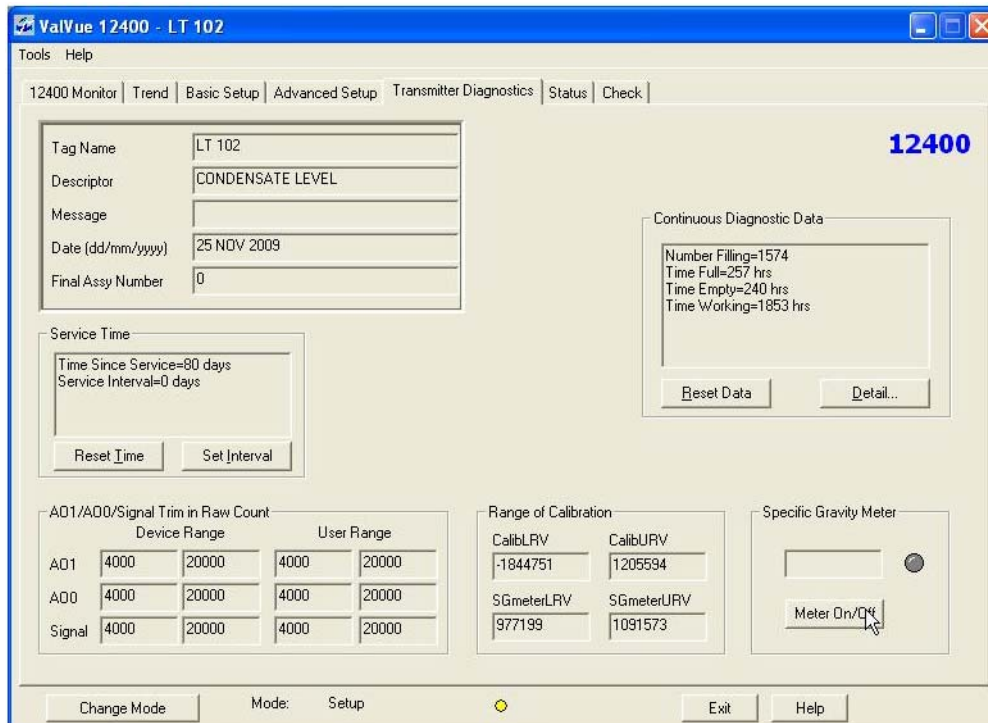

Figure 263 Starting Specific Gravity Meter
- Click **Meter On/Off** (Figure 263).